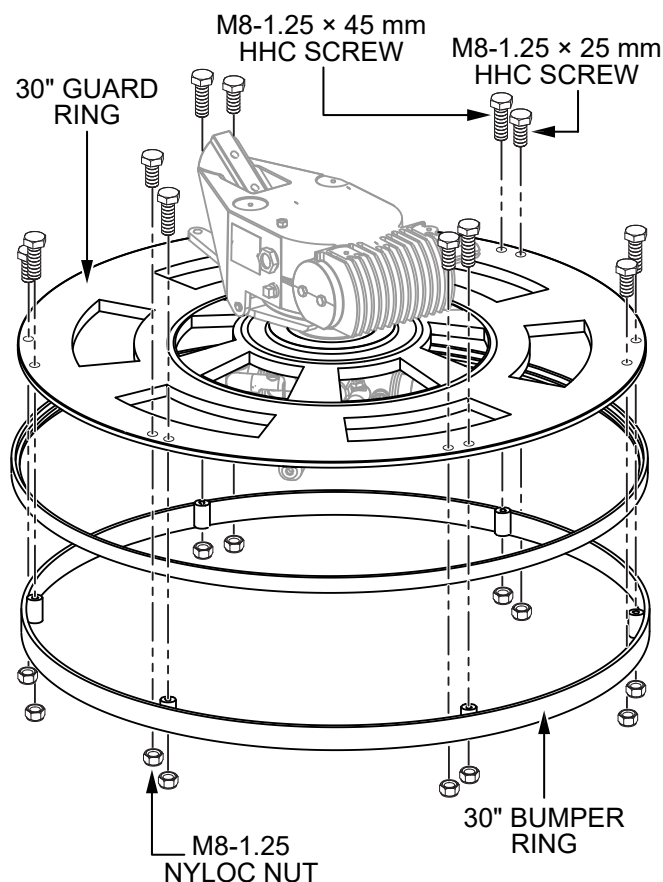

Figure 22. 30-Inch Bumper Ring Removal
2. Remove the six M8-1.25 × 25 mm HHC screws, six M8-1.25 × 45 mm HHC screws, and twelve M8-1.25 nyloc nuts securing the 30" bumper ring to the 30" guard ring (Figure 22). Retain the twelve nyloc nuts and six M8-1.25 × 25 mm screws for installation of the 36" guard-bumper ring assembly.